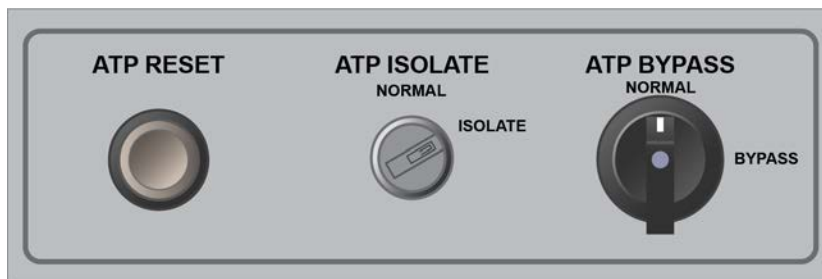

FIGURE 1: ATP control panel.
- installing ATP controls in a new panel in Locker 7A, as shown in Figure 1